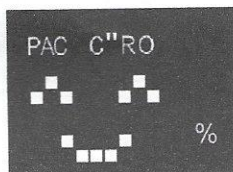
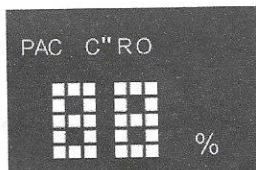

Figure 9
Figure 10
- Standby/dispensing water mode: The filter life indicator stays on, The life of each filter element does not arrive, the icon of the filter element is bright, and the life of the filter element shows the percentage of the minimum life of the filter element, as shown in Figure 10. When the filter expires, the icon of the filter element flashes, the screen flashes with the crying face, and the percent icon % flashes. For example, When the life of the post carbon filter element is reached, the display is shown in Figure 11.
- Filter element life reset: After the life of the filter element is reset, it will display the smiley face when the filter element has been reset successfully, as shown in Figure 9. then the life of the filter element will be displayed normally, as shown in Figure 10.